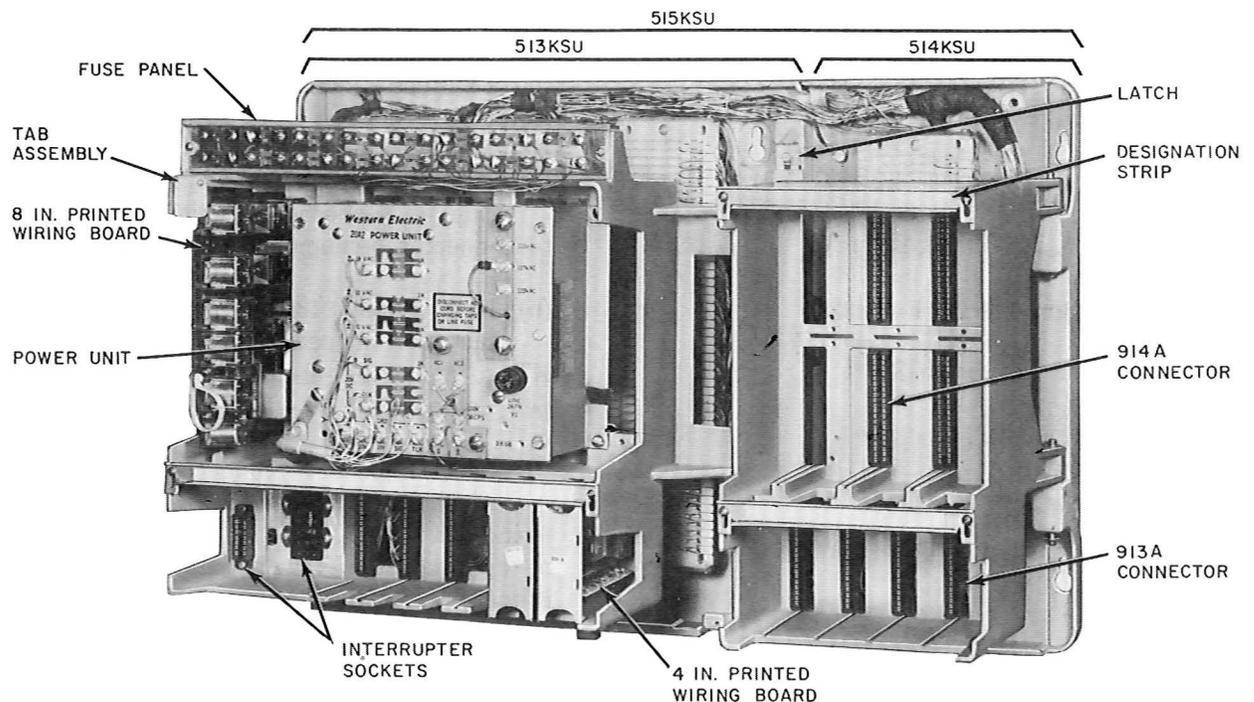

Fig. 1—515A3 Key Service Unit, Cover Removed
- To accommodate the diversified and expanded services offered by the 1A2 Key Telephone System by providing mounting and connecting facilities for the 400 series KTUs (Fig. 1).
- (a) The 514A1 KSU is an add-on unit intended for use with the 513-type KSU to provide for growth and/or expansion of features by furnishing additional mounting and connecting facilities (Fig. 1).